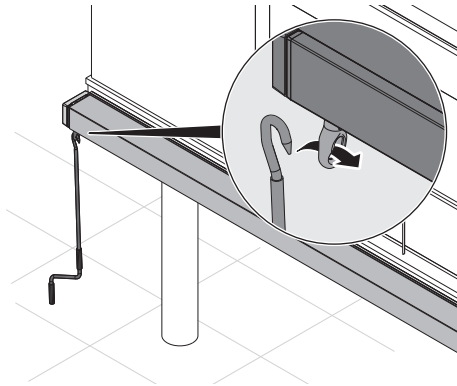

Fig. 16: Insert the manual crank
1. Insert the manual crank in the crank slot (fig. 16).